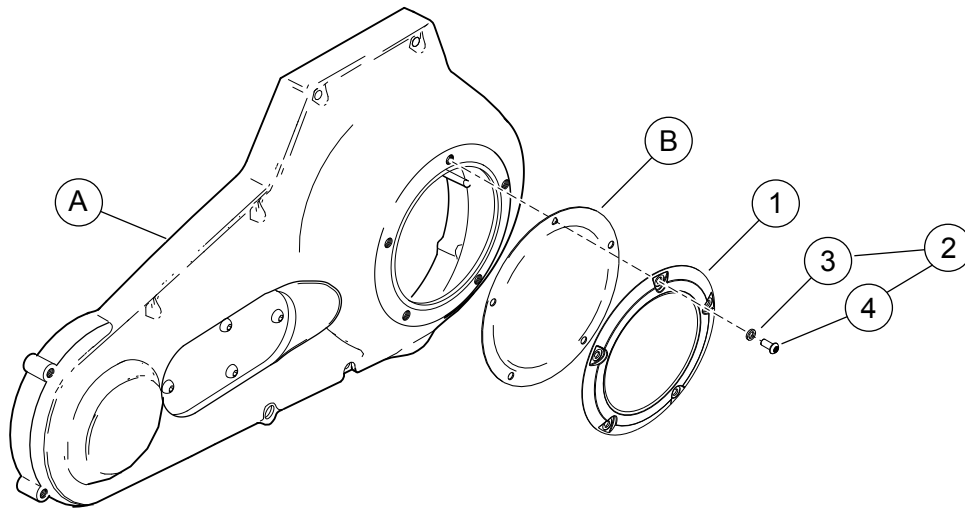

Figure 2. Service Parts: Chrome Billet Derby Cover
See Figure 2 and Table 1.
- b. See Figure 2. Place a washer (3) onto the threads of one of the **new** screws (4). Insert the screw threads through the top hole in the derby cover, and carefully thread it all the way through the triangular shaped hole in the gasket. Do not push the screw through the hole.